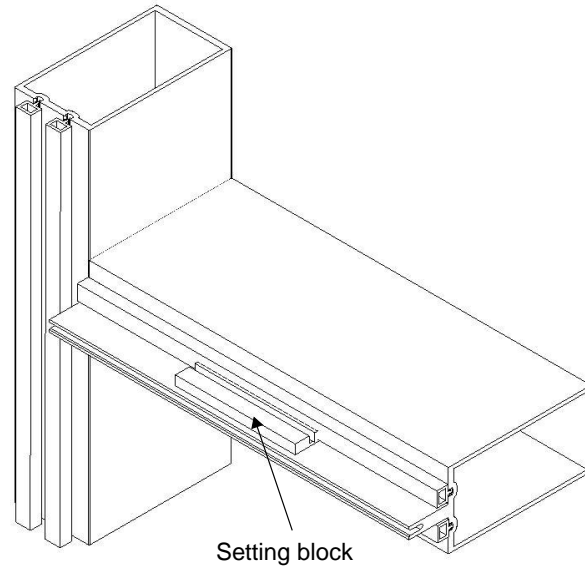

Figure 10: Place a 3/16" x 13/16" x 4" setting block (not by Tubelite) on the tongue of the horizontal member.
- Place a 3/16" thick by 13/16" x 4" long setting block (not by Tubelite) on the tongue of the horizontal member at the quarter point of each lite or as specified by shop drawings, as shown in Figure 10.